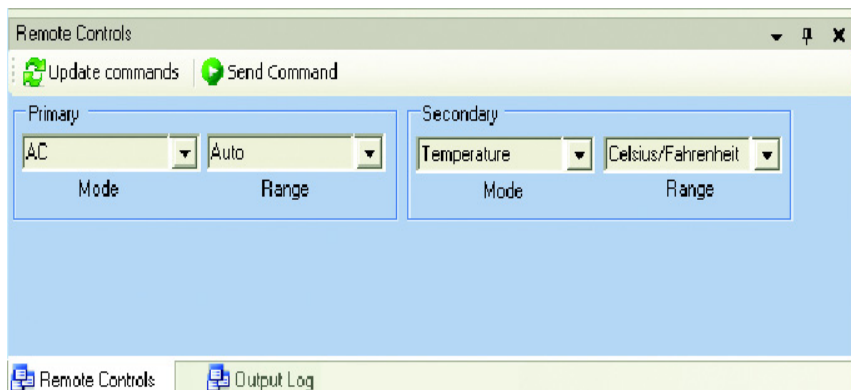

Figure B-15 Remote controls
- ✓ Click on **Update Commands**, to update the lists of command available for different rotary switch functions selected. The list of command can be view through the drop-down combo box menu (figure B-15).